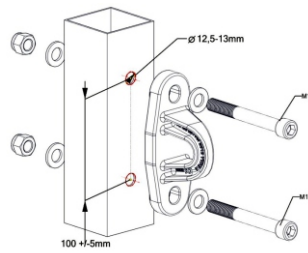

Figure 5. Installation of bolt fasteners with anchor point on steel structure
- para tornillos inoxidables (A2) y resistentes a los ácidos (A4) – clase de resistencia no inferior a 70 (fig. 5)
- for stainless steel (A2) and acid resistant steel (A4) bolts – strength class no lower than 70. (Figure 5)